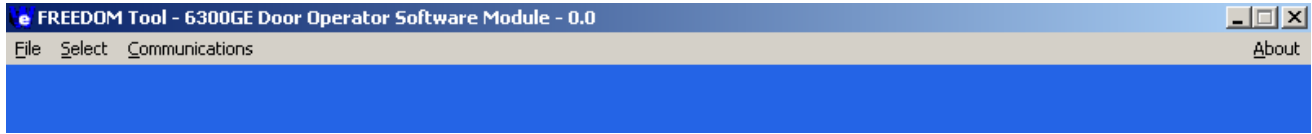

Figure 23
- The **Main** window is displayed as shown in Figure 23. Choose Select and then **Door Window** to open a communication session with the 6300GE Door Operator.